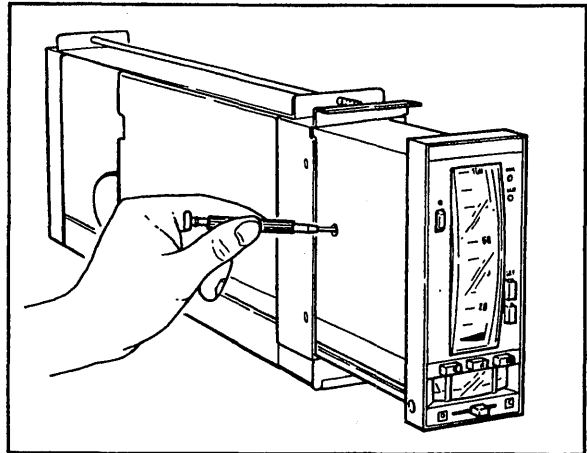

Figure 6-2-1. Zero Adjustment of Measurement Pointer.
- (1) Apply a voltage of 3.0 V DC to process variable input terminals XI (terminals 1 (+) and 2 (-)) from the DC voltage/current standard.
- (2) Check that the measurement pointer indicates 50% ±0.5% of the calibration mark on the scale plate.
- (3) If the reading is not in this range, rotate the zero adjustment screw to point to 50%, as shown in Figure 6-2-1.
- (4) Change the input signal to 1.0 V, 2.0 V, 4.0 V, and 5.0 V DC, and check that the readings are at 0%, 25%, 75%, and 100% calibration marks, respectively. The tolerance is ±0.5% of span. Check each calibration mark at the position where the line of sight and set-point value indicator are horizontal.
- (5) If the tolerance is exceeded in (4), apply 3.0 V DC again and make fine adjustments with the reading to fit in the range of 50% ±0.5%.
- (6) Repeat (4) and (5) until the readings at all input points are held within the tolerance.